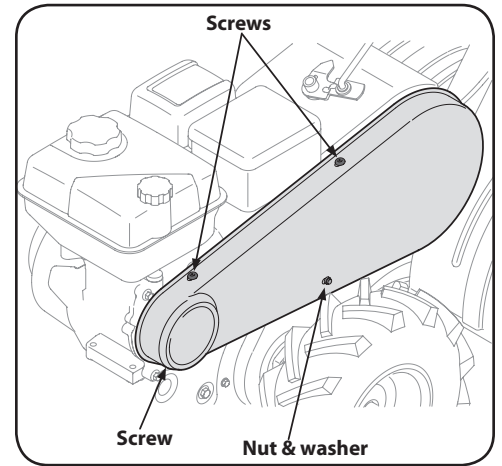

Figure 5-1
2. Remove the belt cover from the left side of the tiller by removing the two screws from the top of the belt cover. See Figure 5-1.